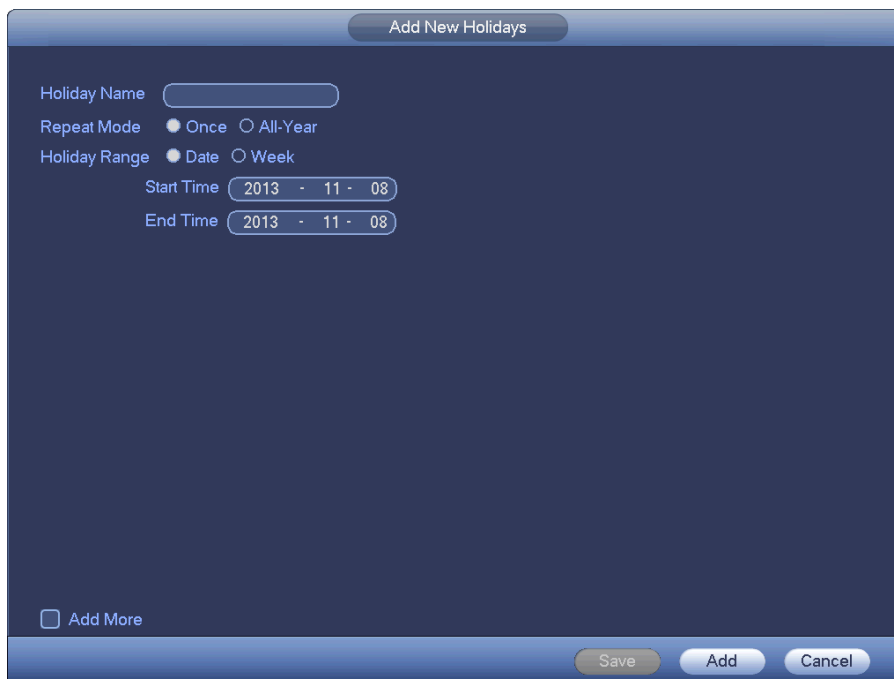

Figure 4-50
- b) Click Add new holiday button, you can see an interface shown as in Figure 4-50. Here you can set holiday date name, repeat mode, start time/end time and etc.